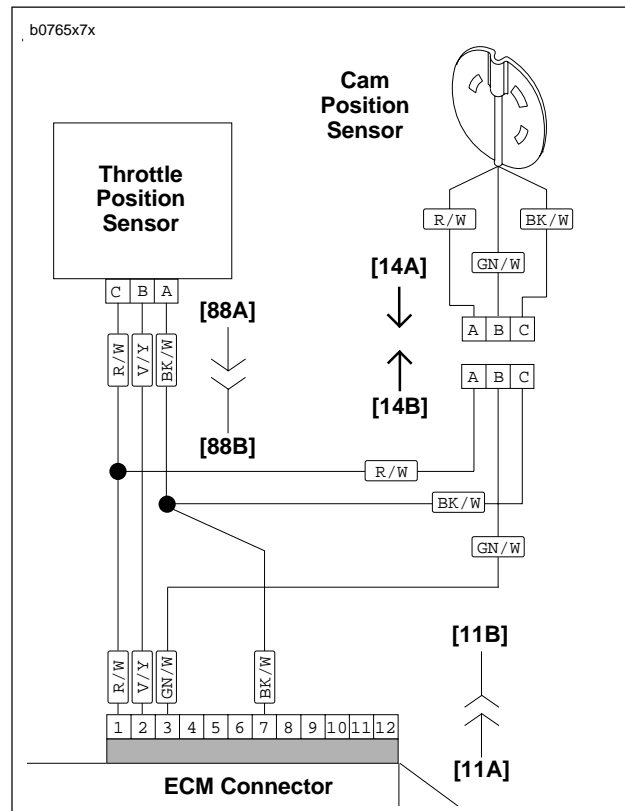

Figure 4-70. Connecting Sensor Wires
2. Install trigger rotor (17).
- a. Apply LOCTITE 243 (blue) to threads of bolt (18).
- b. Position trigger rotor (17) onto end of camshaft aligning notch with camshaft slot.
3. Install cam position sensor (19) and timer plate studs (4). Rotate cam position sensor to its previously marked position to obtain approximate ignition timing.
5. See Figure 4-70. Install sensor wiring terminals into correct positions in plug end of connector [14]. R/W, GN/W and BK/W wires of plug end (from cam position sensor) must match same color wires in receptacle end of connector (from ignition module wiring harness). Install pin terminals. See B.2 DEUTSCH ELECTRICAL CONNECTORS under B.1 AMP MULTILOCK ELECTRICAL CONNECTORS.